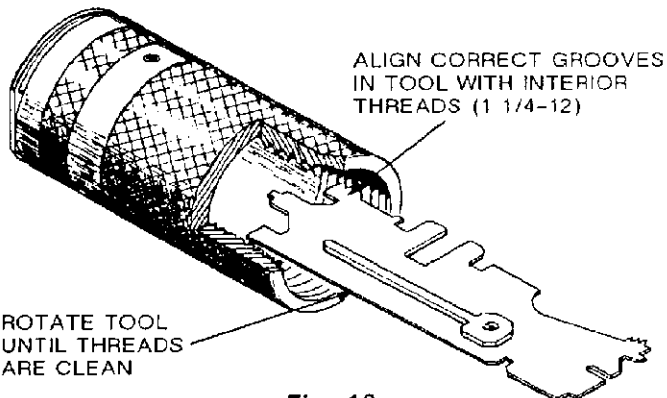

Fig. 10
4. To clean interior threads (1 1/4-12) in the breech end, insert correct end of cleaning tool into sleeve as shown in Figure 10. Make sure tool grooves are aligned with threads in breech sleeve. Rotate tool until an adequate threaded area is clean.